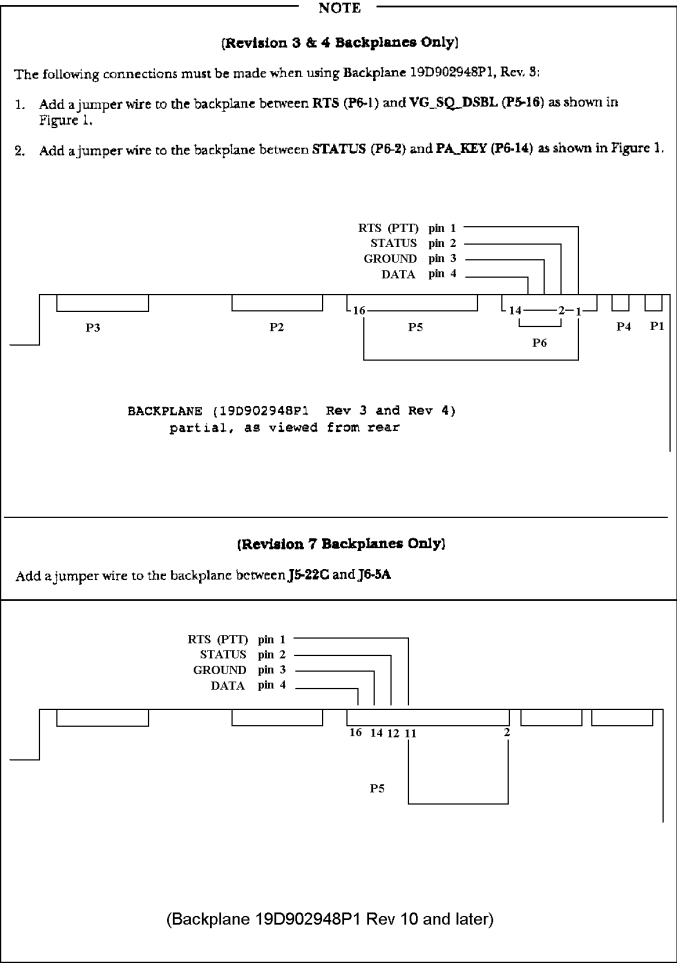

Figure 1 - MASTR III Backplane
For stations with Backplane 19D902948P1, Rev. 3 see additions and Figure 1 in the **Compatibility** Section.
1. Make the following connections to the Backplane as shown in Figure 1: